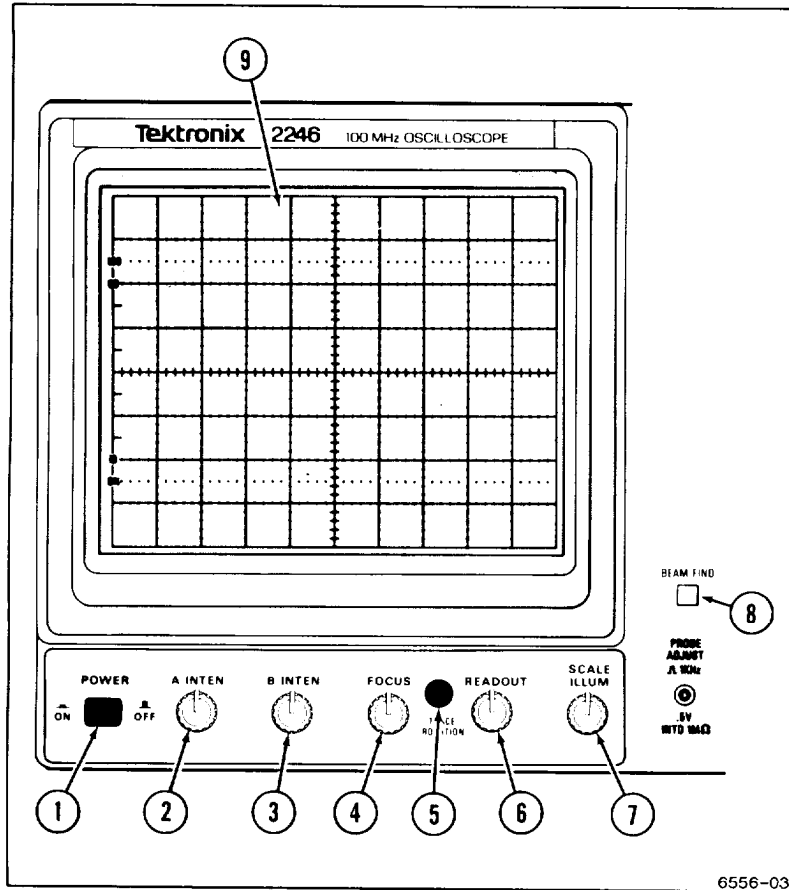

Figure 2-1. CRT, power, and display controls.
Refer to Figure 2-1 for location of items 1 through 9.
- ① POWER Switch—Turns on or off instrument power. Press for ON or OFF.